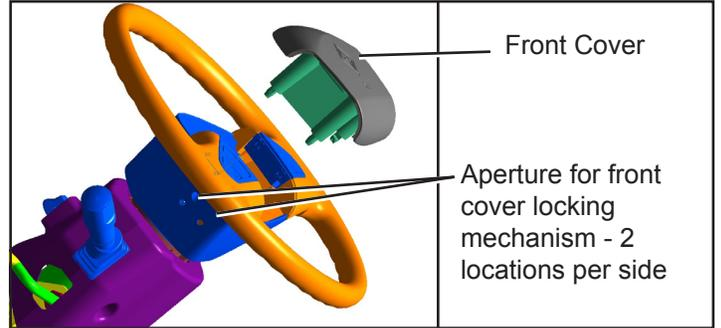

Figure 3 Front Cover Release and Removal
3. Remove the front cover of the steering wheel by inserting a Phillips head screwdriver into each of the four apertures (two per side) as shown in Figure 3. When the latching mechanism is released, pull the front cover forward.